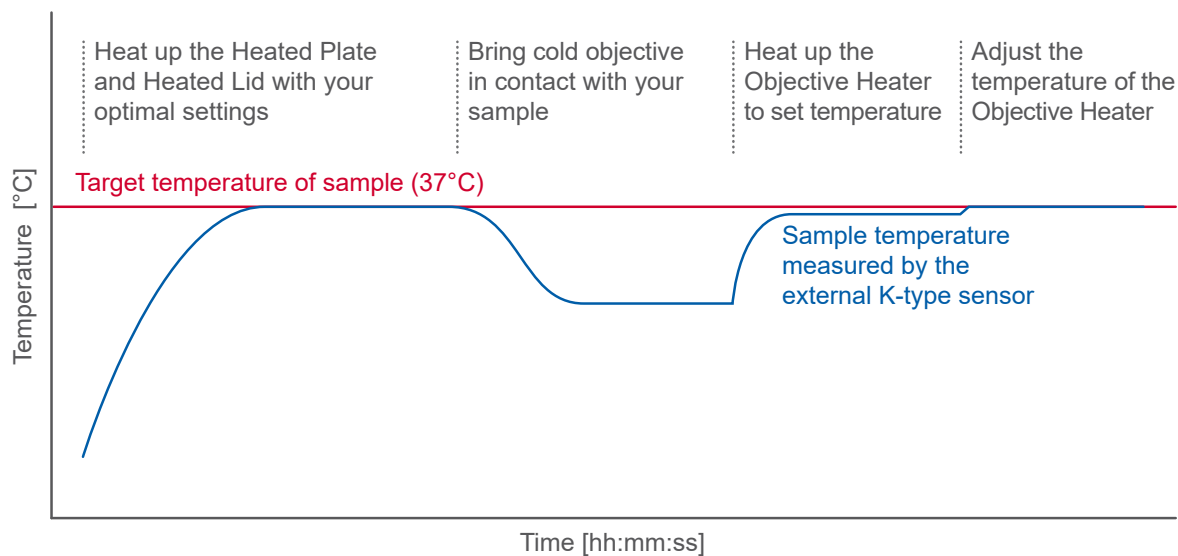

Figure 33: Temperature adjustment procedure to adjust the sample temperature to the target temperature.
2. As soon as the target temperature of the sample is reached, bring the cold objective in contact with the sample. The temperature of the sample will most likely drop (see Figure 33). Wait until the temperature of the sample reaches a stable plateau.